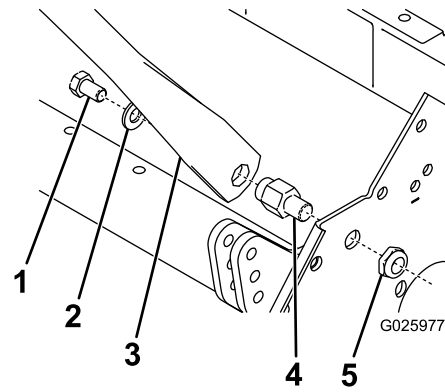

Figure 1
8. Remove the bolt, washer, handle pivot pin, and flange-head nut securing the handle assembly to the machine (Figure 1).